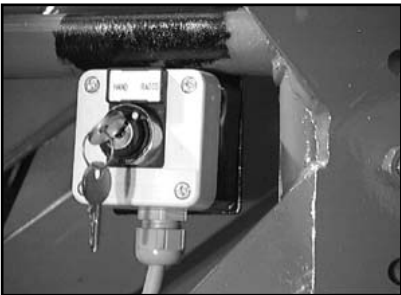

fig. 8
- Turn the selector switch (fig. 8) on the Manual-Radio panel to Radio.